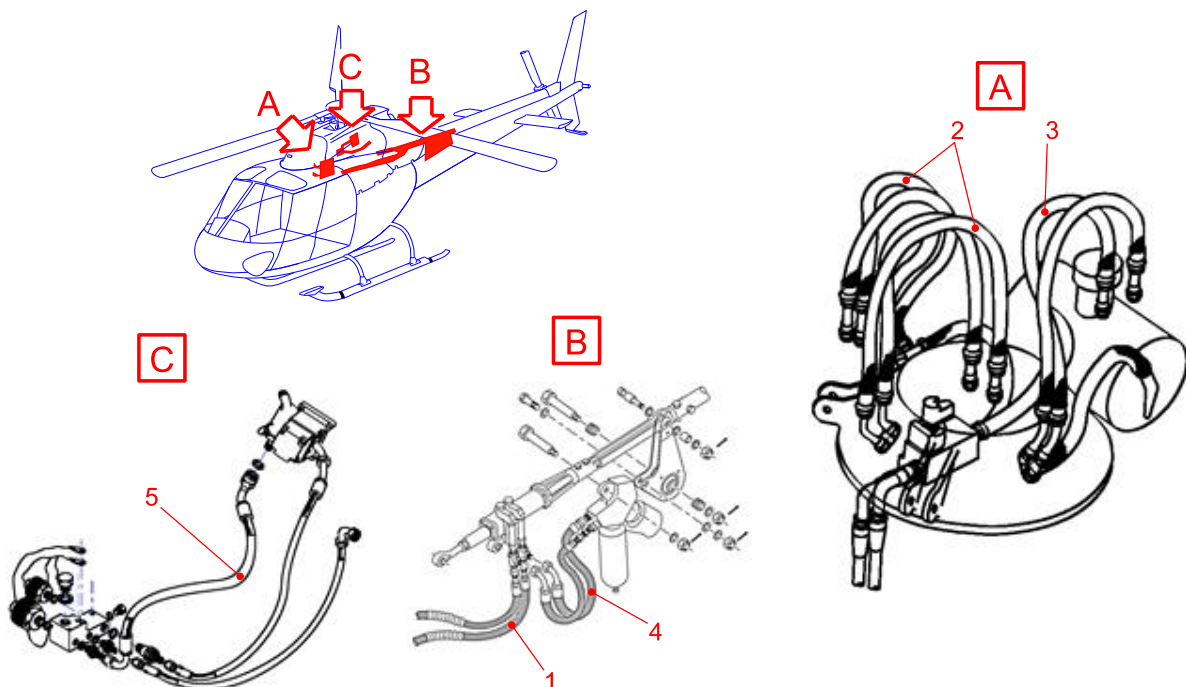

Figure 1
- The Return hose 9SN21092 (704A34410076) (1) (Figure 1)
- The Return hose 9SN35102 (704A34410077) (2)
- The Return hose 9SN36107 (704A34410079) (3)
- The Return hose 9SN40152 (704A34410080) (4)
- The Return hose 9SN44192 (704A34410082) (5).